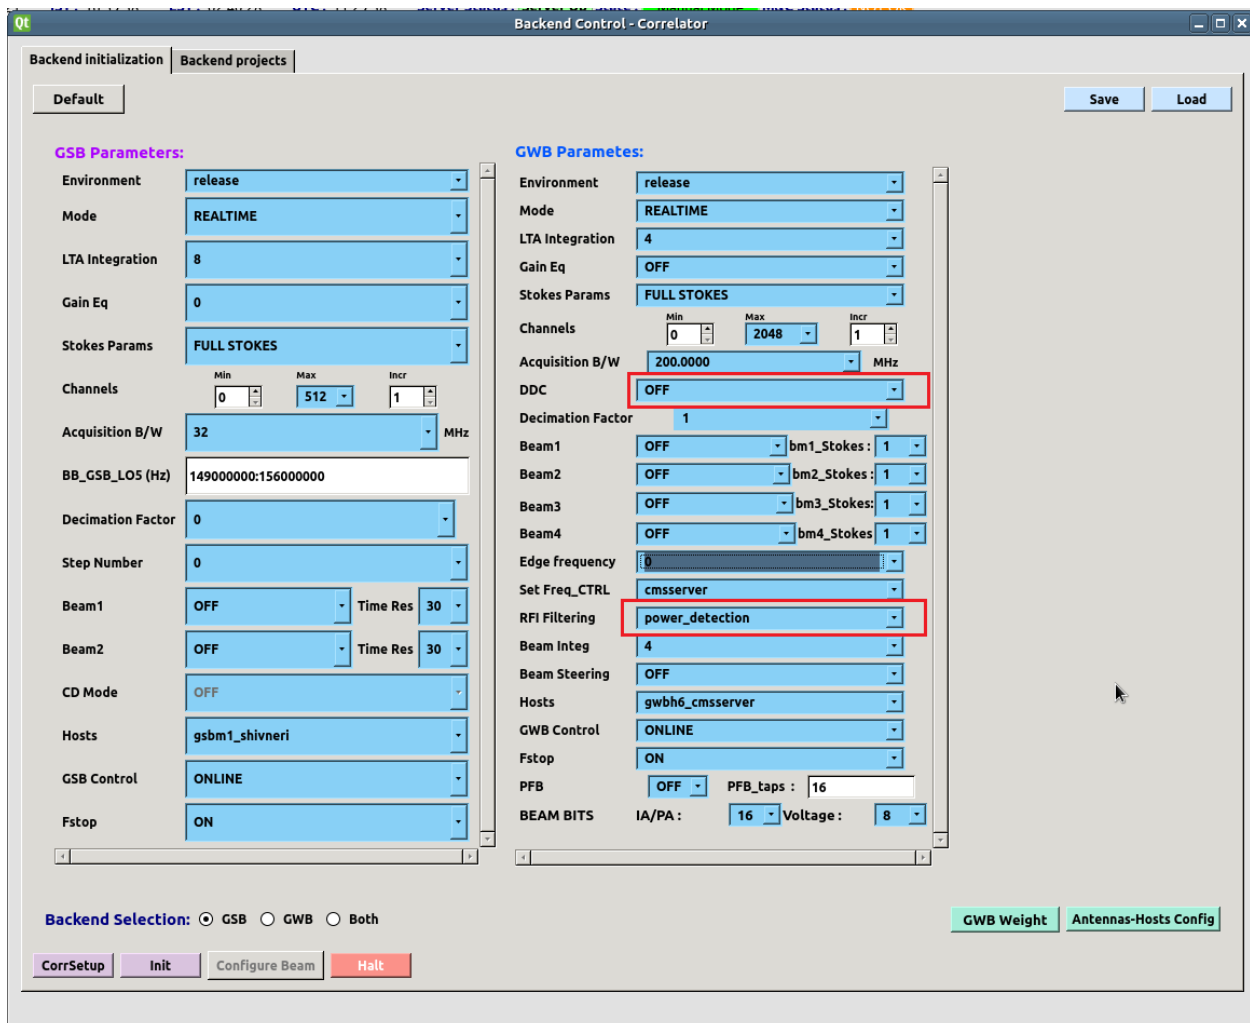

Fig. 2: GWB configuration GUI
1. All the necessary settings as per the observation requirement have to be carried out from the main GWB-IV configuration window viz. *gwbcorr* GUI i.e. Preferred settings, GAC config, Pulsar Console etc. Enable RFI filtering and select the technique in the GWB main GUI (Refer Fig. 2)
1. The Configuration settings with RFI Filtering OFF and DDC mode OFF (is highlighted by red color rectangle) is shown in Figure.2